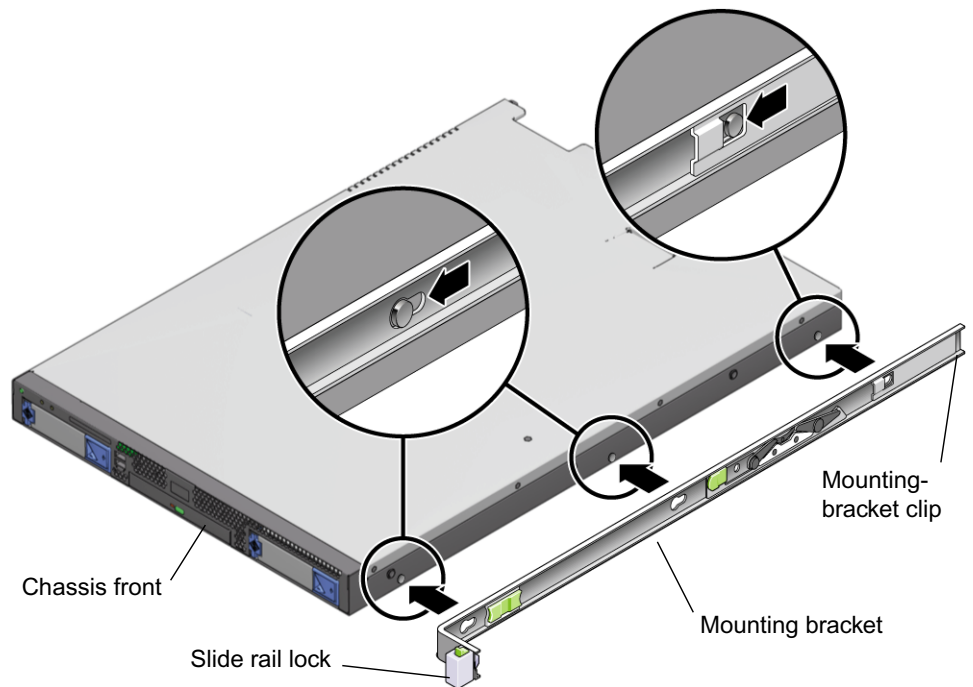

FIGURE C-2 Aligning the Mounting Bracket With the Server Chassis
2. With the heads of the three chassis locating pins protruding through the three keyed openings in the mounting bracket, pull the mounting bracket toward the front of the chassis until the mounting-bracket clip locks into place with an audible click. (See FIGURE C-2.)
3. Verify that the rear locating pin has engaged the mounting-bracket clip. (See FIGURE C-2.)